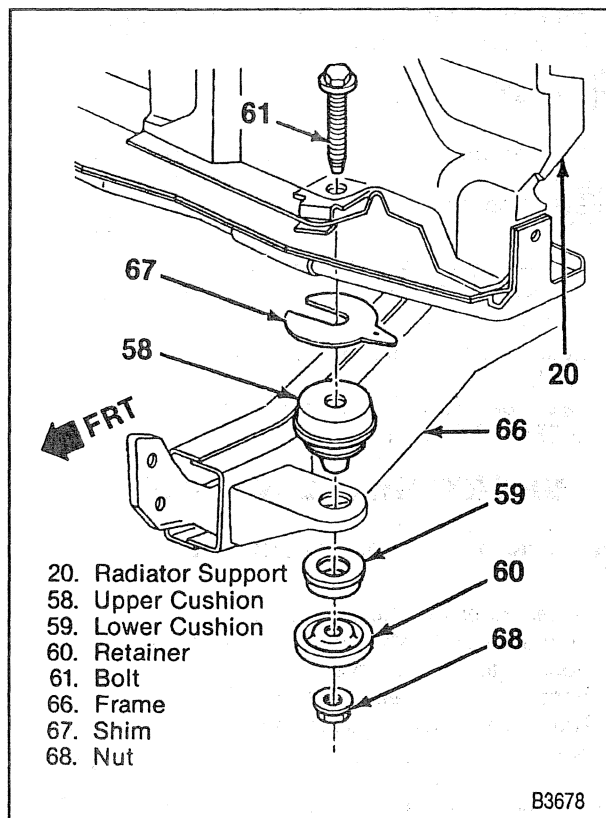

Figure 23—Radiator Support Mounting
20. Bolt holding the support mount to the vehicle (figure 23).
3. Upper mounting cushion and shims between the support and the bracket on the frame (figure 23).